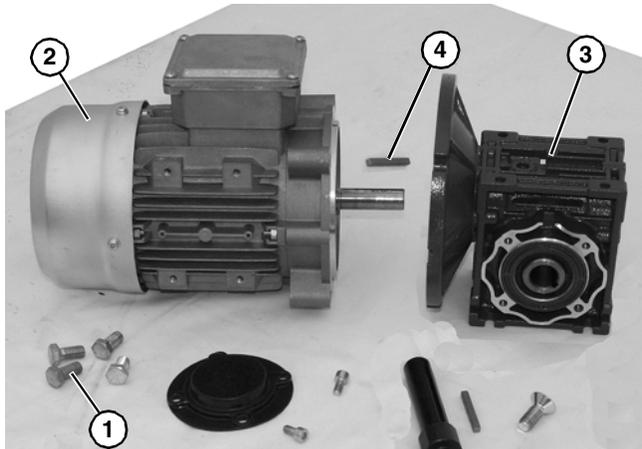

Figure 20
5. Remove four screws (**Figure 20, item 1**). Detach motor (**Figure 20, item 2**) from gear reducer (**Figure 20, item 3**). Retain shaft key (**Figure 20, item 4**).
- Apply anti-seize to motor shaft before assembling to gearbox. With key (**Figure 20, item 4**) in keyway, slide motor (**Figure 20, item 2**) and gear reducer (**Figure 20, item 3**) together. Install screws (**Figure 20, item 1**) and tighten.